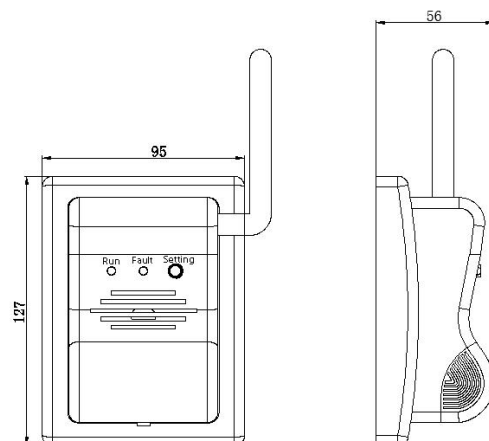

Figure 1 Schematic diagram of the appearance of the alarm
4.1. The outline diagram of the module is shown in Figure 1: